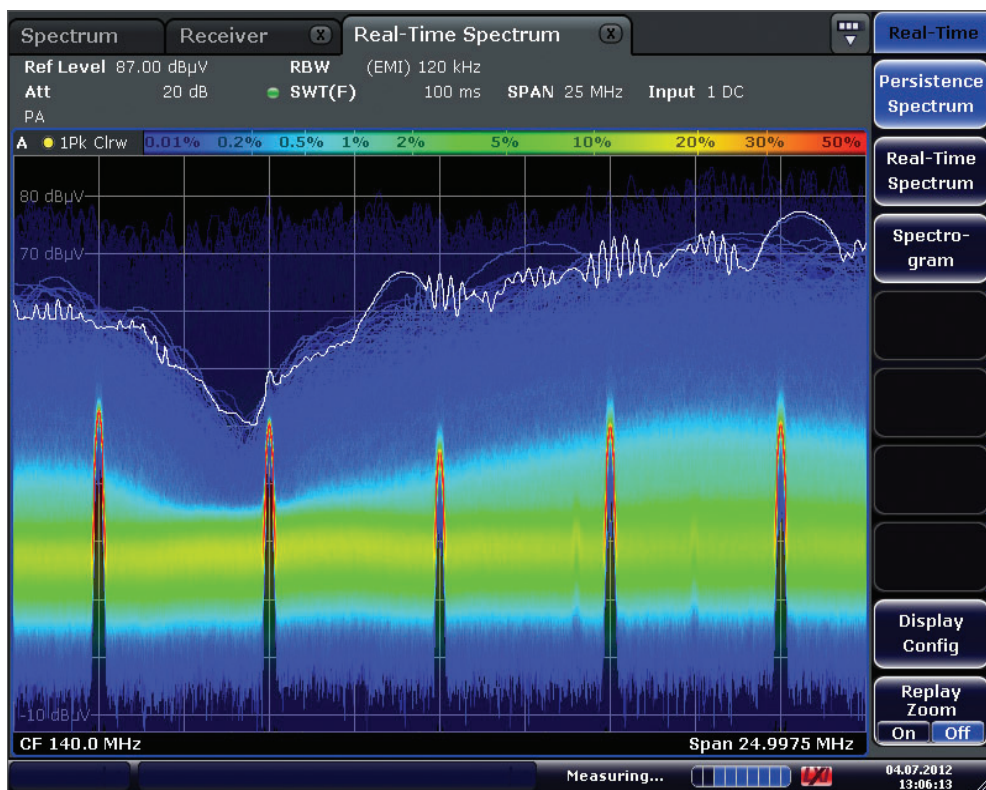
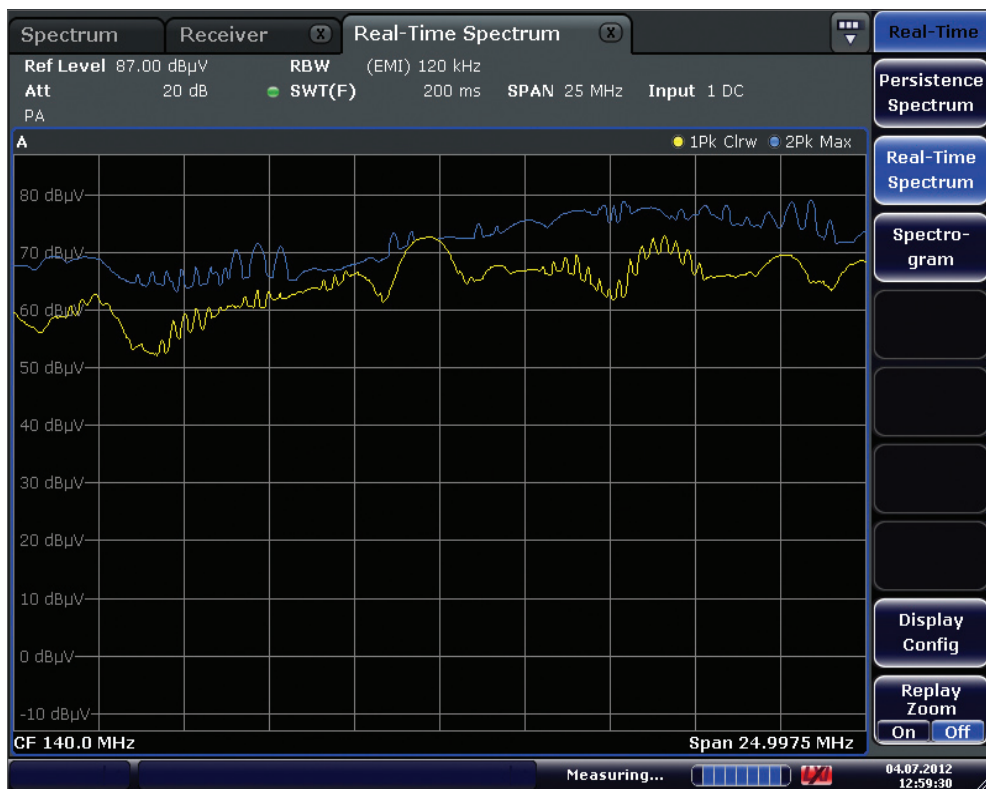

Figure 5: Example of a FFT-based EMI test receiver in persistence mode
Figure 6: Example of a FFT-based EMI test receiver in real-time spectrum mode. The yellow trace represents the current spectrum, the blue trace Max Hold
In persistence mode, these FFT-based EMI test receivers write the seamless spectra into a single diagram, see Figure 5.
**Example:** The shown disturbance spectrum in Figure 5 is caused by an electric motor with poor EMI suppression. A second pulsed disturbance is clearly visible, while it cannot be identified in conventional analyzer mode as it is hidden by the broadband disturbance, see Figure 6.